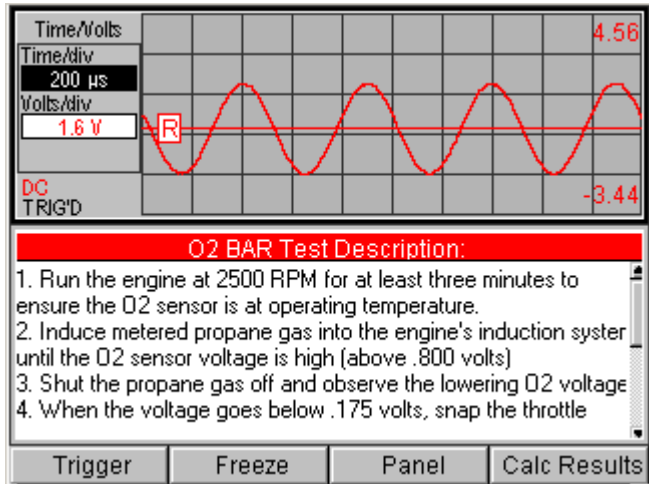

Figure 5.22: Component Test Screen - O2 BAR Test
- 4 Select **O2 BAR Test** and press the **ENTER** key. This displays the O2 BAR test on the Component Test screen (Figure 5.22).